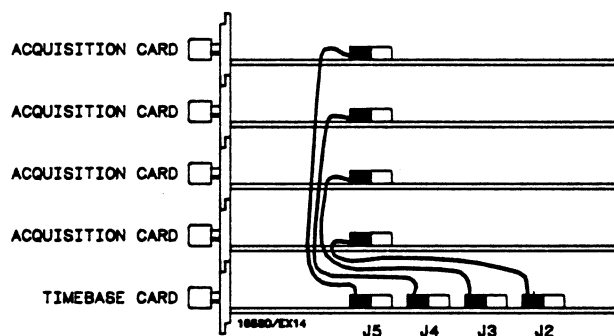
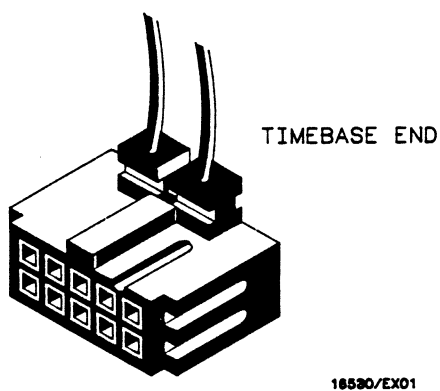

Figure 6-13. Configuration Guide
Figure 6-14. Cable End
- Use one cable per acquisition card. See figure 6-13.
- f. Note the "INSTALLATION CONSIDERATIONS" on the previous page and use figure 6-13 to review the card configuration and cable connection.
- g. Install one cable per acquisition card into the correct timebase card connector (see figure 6-13), making sure to install the correct cable end. Use figure 6-14 to identify the correct cable end.